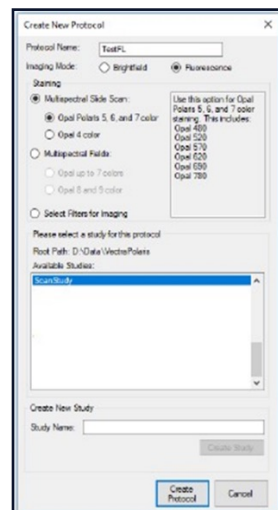

Figure 4.11. Create New Protocol window.
2. Click the New button. The Create New Protocol window opens. (See Figure 4.11.)